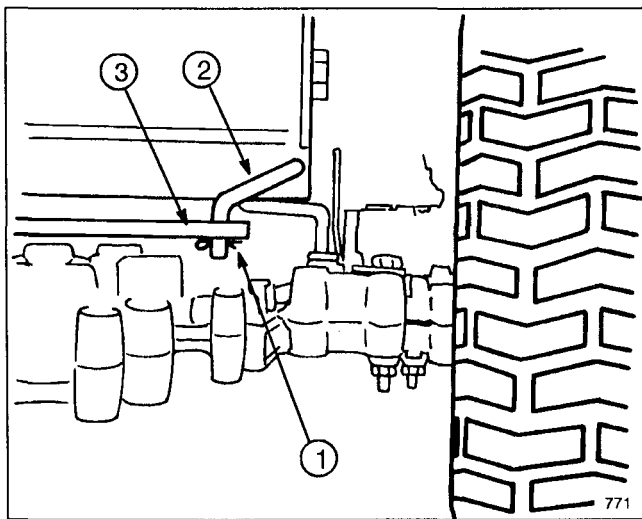

Figure 35
1. Remove cotter pin from rod on right side of transaxle as viewed from the rear of the unit (Fig. 35).
2. Lift rod out of bracket hole (Fig. 35).